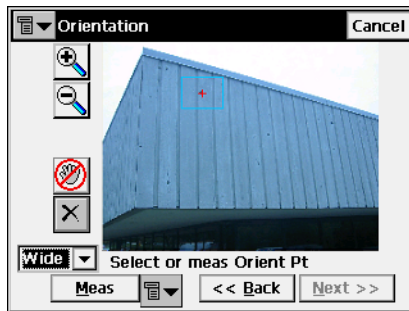

Figure 6-45. Select Orientation Point – Wide View
- The drop-down list in the bottom left corner of the screen contains two options to view the image (Figure 6-45):
- **Next:** when four or more orientation points have been established click this button on the *Orientation* screen to display the orientation results (Figure 6-45).